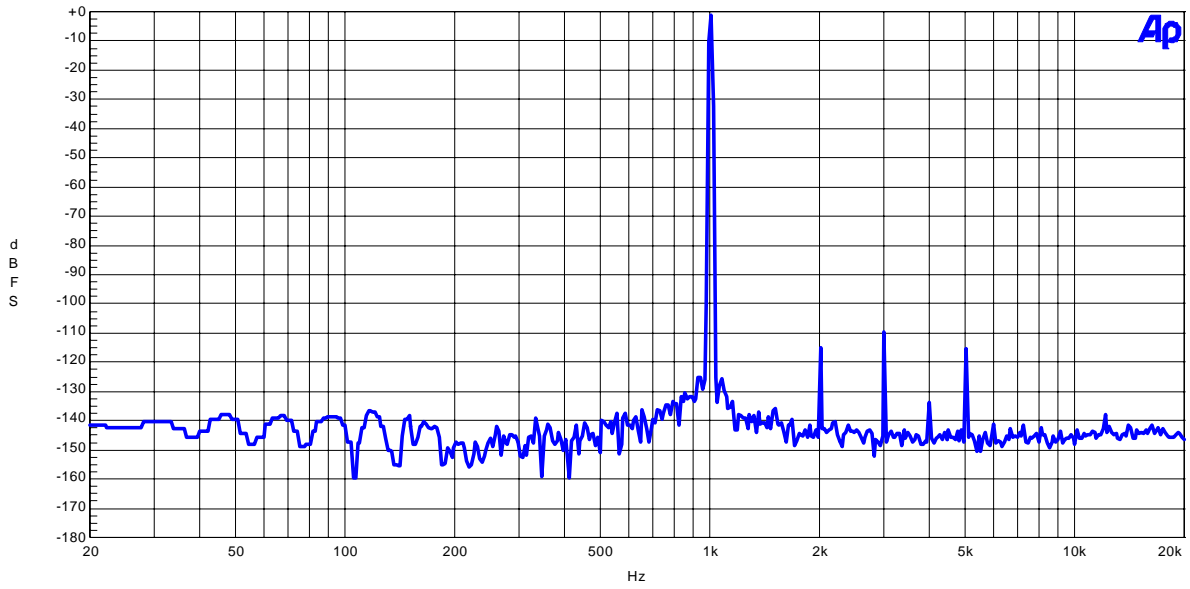

Figure 1-1-1. FFT (1kHz, -1dB input)
- Figure 1-1-1. FFT (1kHz, -1dB input)